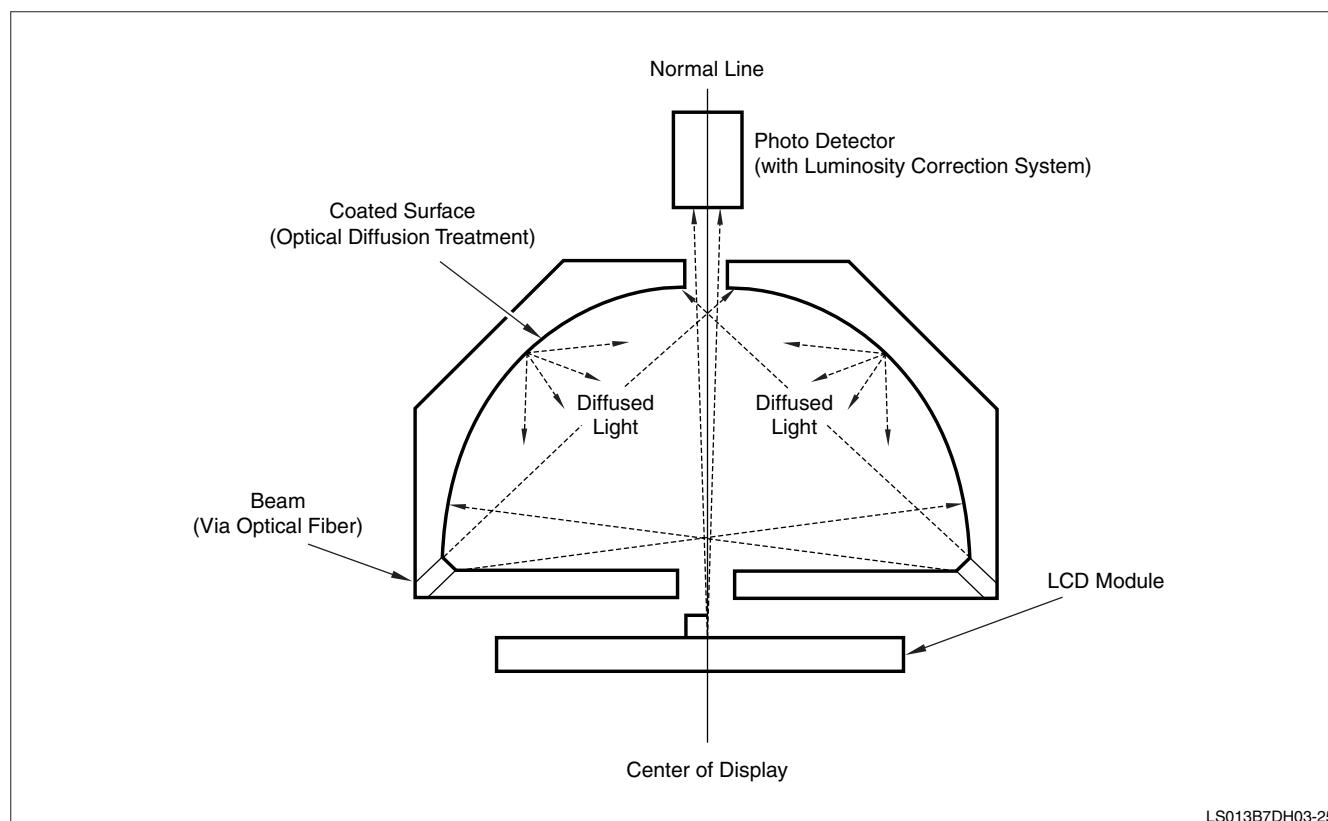

Figure 2. Setup for Contrast, Reflection Ratio, and Chromaticity
2. Contrast Ratio, Reflectivity Ratio, and Chromaticity are measured through the use of an integrating sphere. See Figure 2.